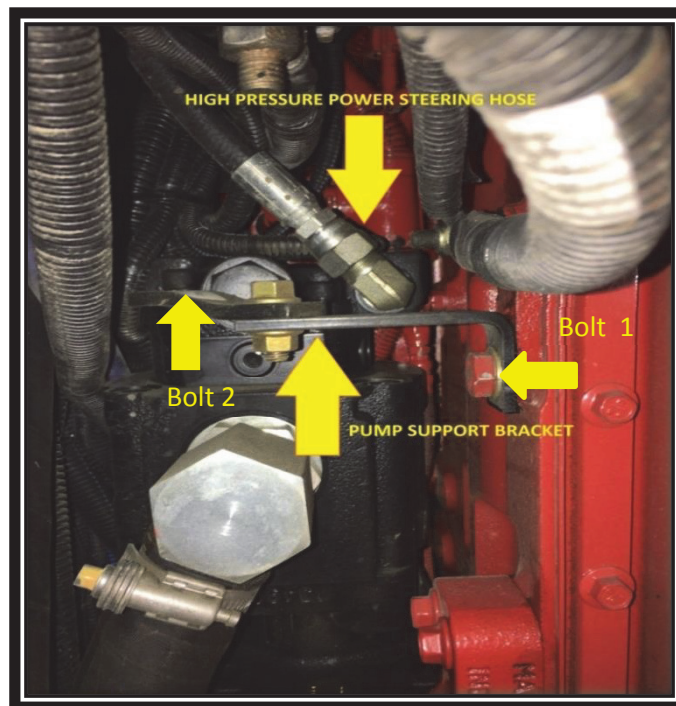

FIG. 2-1
1. Remove the power steering pump support bracket from the pump & the engine block by removing bolts 1 & 2, allowing access to the hex head cover as viewed from bottom. Retain for re-use. Refer to FIG. 2-1